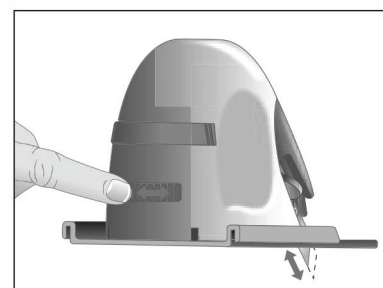

Fig. 4
- 1 The blade can be raised or lowered by turning the Blade Adjustment Knob found on the back side of the Cutter (**Fig. 4**).